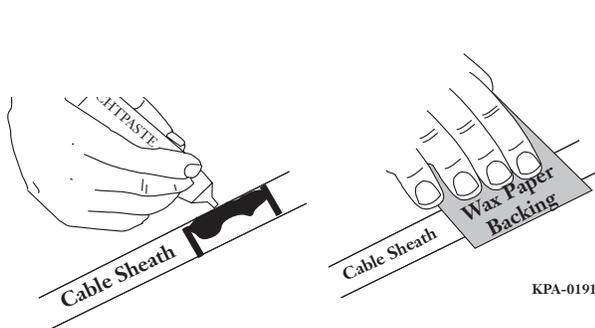

Figure 7 — Apply Sealing Paste
- Step 3** Use wax-paper backing from the sealing tape to spread the “dichtpaste” sealing paste evenly around the cable in the area where the sealing tape will be applied (Figure 7). Wait for the sealing paste to dry.